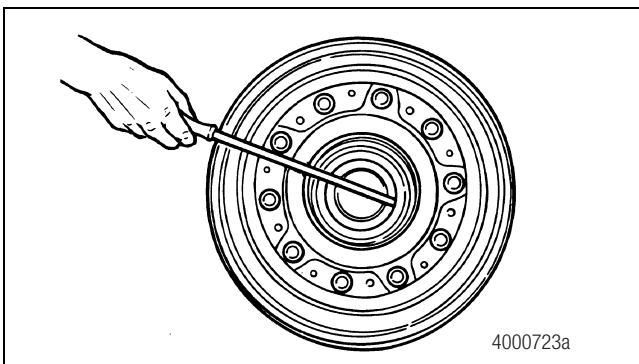

Figure 4.4
3. If necessary, use a long screwdriver to remove the oil seal from the hub. Discard the oil seal. Figure 4.4.